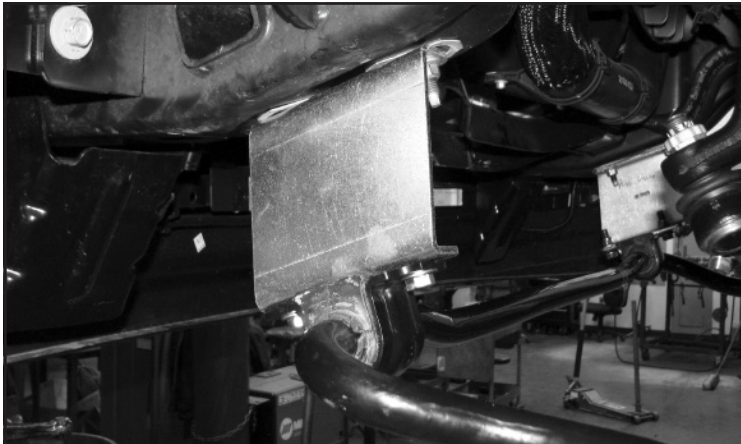

FIGURE 19 - STEP 24
24. Install FT30630 (Driver) & FT30629 (Passenger) Sway bar drop brackets using the factory hardware. Torque to 35 ft-lbs. Reinstall the front sway bar to the end links using the supplied 7/16" hardware torque all hardware to 83 ft-lbs. Reconnect the sway bar to the end links. Torque to 59 ft-lbs **SEE FIGURE 19**